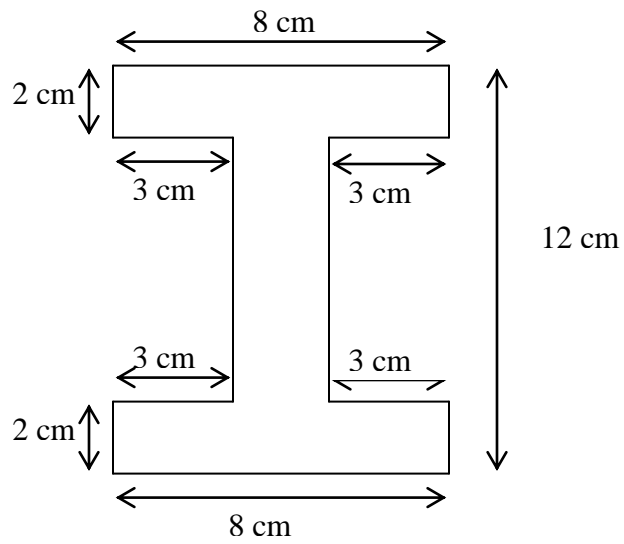

Figure 3
- (b) For the composite area shown in Figure 3, determine